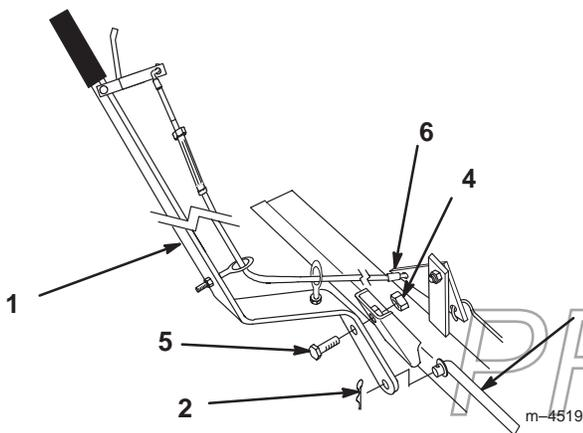

Figure 15
7. Remove hairpin cotter and control rod from index lever (Fig. 15).